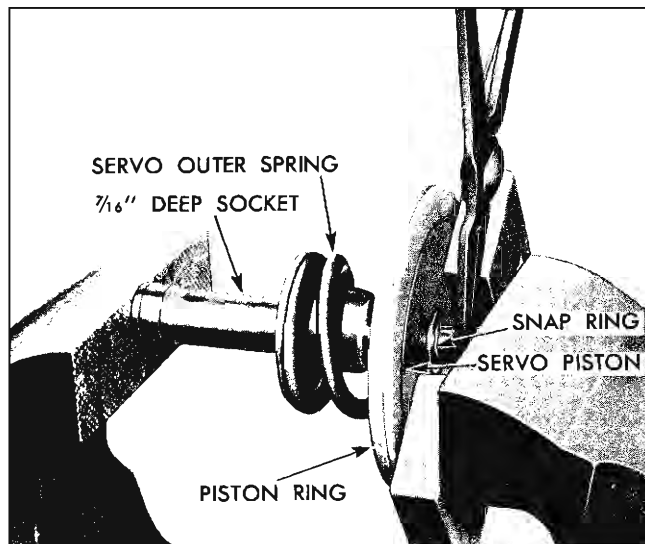

Fig. 7C-105 Method of Removing Snap Ring from Servo Piston Pin
3. Place the assembled servo components with a  $\frac{7}{16}$ " deep socket over the piston pin and "U" shaped spacer against the servo piston into a vise and, aligning pin carefully, compress the assembly to allow the flat washer and snap ring to be installed (Fig. 7C-98).
The following inspection procedure is to be used for the compensator valve body, the 3-4 boost body, and the control valve body (Fig. 7C-107).